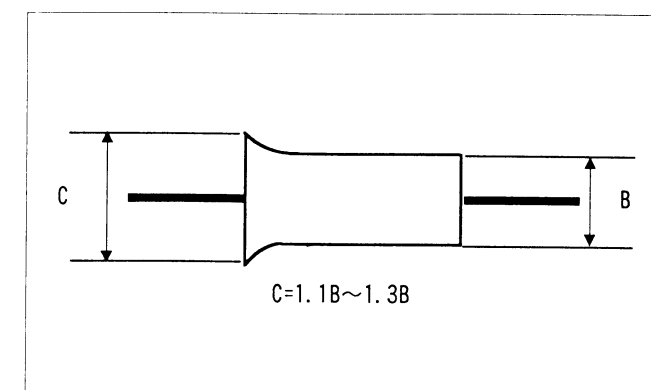

Fig. 1-5
- 4) Slightly swell Supply side waveform by turning No. 6 Guide. (Fig. 1-5)